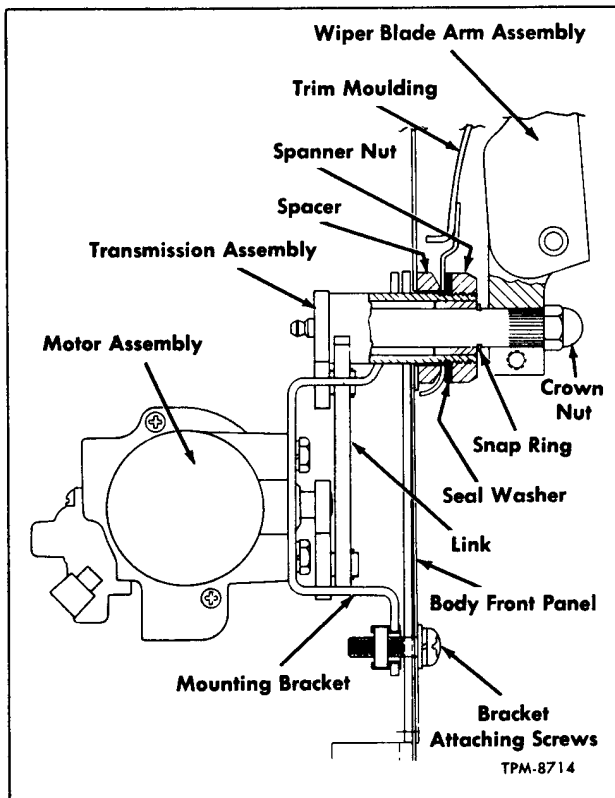

Figure 17—Wiper Motor and Bracket Installation
REPLACEMENT (Fig. 17)
1. Referring to figure 17, place wiper motor with assembled linkage into position and attach to body panel with two bolts and washers. Also at front of vehicle install seal washers and spanner nuts which retain motor shafts in position. Tighten spanner nuts to 18-20 foot-pounds torque.